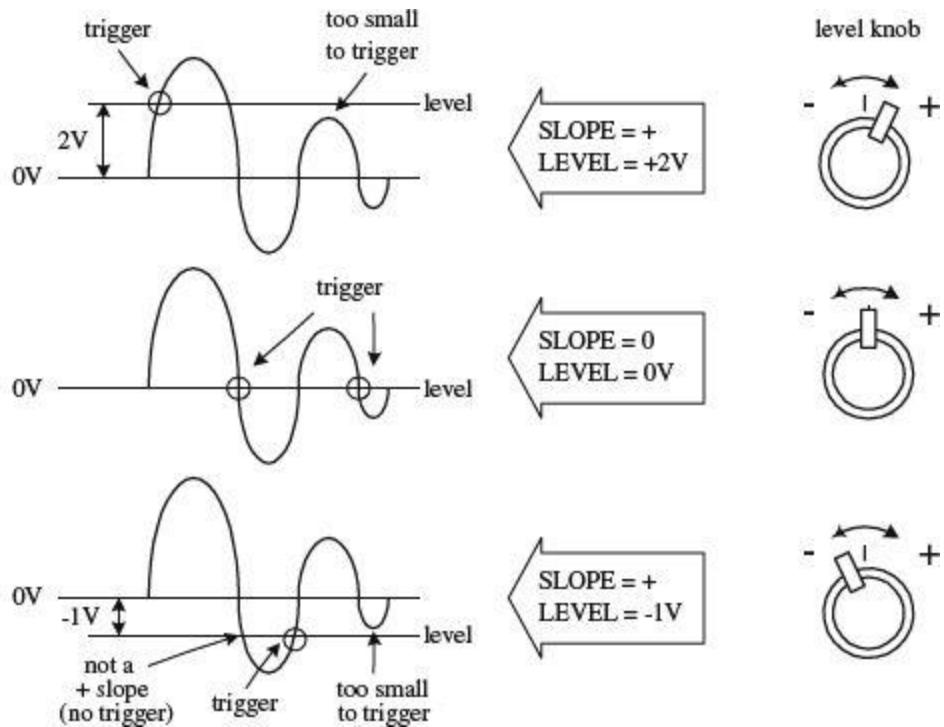

FIGURE 7.35
- *NORM:* Used for triggered sweep operation. The triggering threshold is adjustable by means of the triggering LEVEL control. No sweep is generated in the absence of the triggering signal or if the LEVEL control is set in such a way as to allow the threshold to exceed the amplitude of the triggering signal (see Fig. 7.35).
LEVEL knob: Used to trigger a sweep. LEVEL sets the point when the scope will trigger based on the amplitude of the applied signal. The level can be shifted up or down. The READY/TRIGGER indicator turns on when the sweep is triggered, indicating that the triggering LEVEL control is within the proper range (see Fig. 7.35).